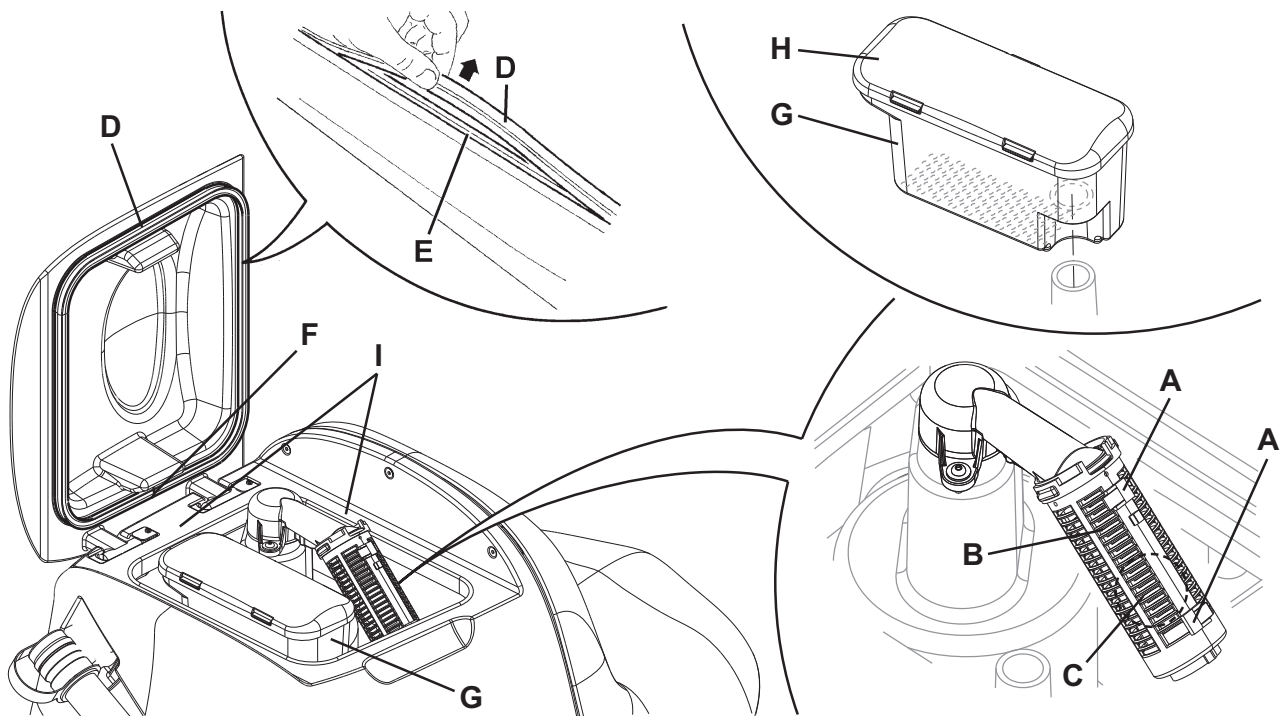

Figure 8
5. Clean the vacuum grid (27), release the fasteners (A, Fig. 8), open the grid (B) and recover the float (C) then clean carefully and reinstall.
6. Clean the container with debris collection grid (26), remove the container (G), remove the cover (H), then clean carefully and reinstall the vacuum hose.
7. Check the tank cover gasket (D) for integrity.